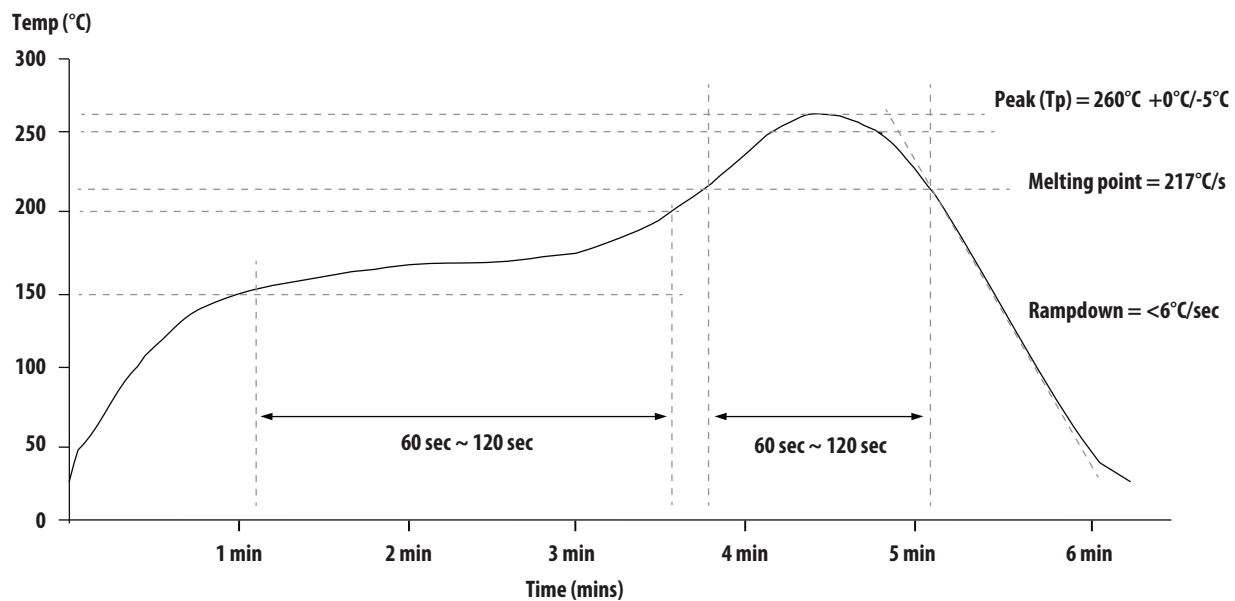

Figure 1. Recommended Reflow profile
The recommended lead free solder for SMT reflow is Sn-Ag-Cu (95.5% Tin / 3.8% Silver/ 0.7% Copper). This lead free solder paste has a melting point of 217°C (423°F), the ternary eutectic of Sn-Ag-Cu system, giving it the advantage of being the lowest melting lead free alternative. This temperature is still low enough to avoid damaging the internal circuitry during solder reflow operations provided the time of exposure at peak reflow temperature versus time is shown in Figure 1.
The solder paste used in this evaluation is RX 303-92 SK HO(S) by Nihon Handa. Profile in Figure 1 is recommended in automated reflow process to ensure reliable finished joints. However, profile will vary among different solder paste from different manufacturers. Other factors that may affect the profile includes the density and type of components on the board, type of solder and type of board or substrate material being used. The profile shows the actual temperature that should occur on the surface of a test board at or near a central solder joint. During this type of reflow soldering, the circuit board and solder joints tend to heat first. The components on the board are then heated by conduction. The circuit because it has a large surface area, absorbs thermal energy more efficiently, and then distributes this heat to the components.